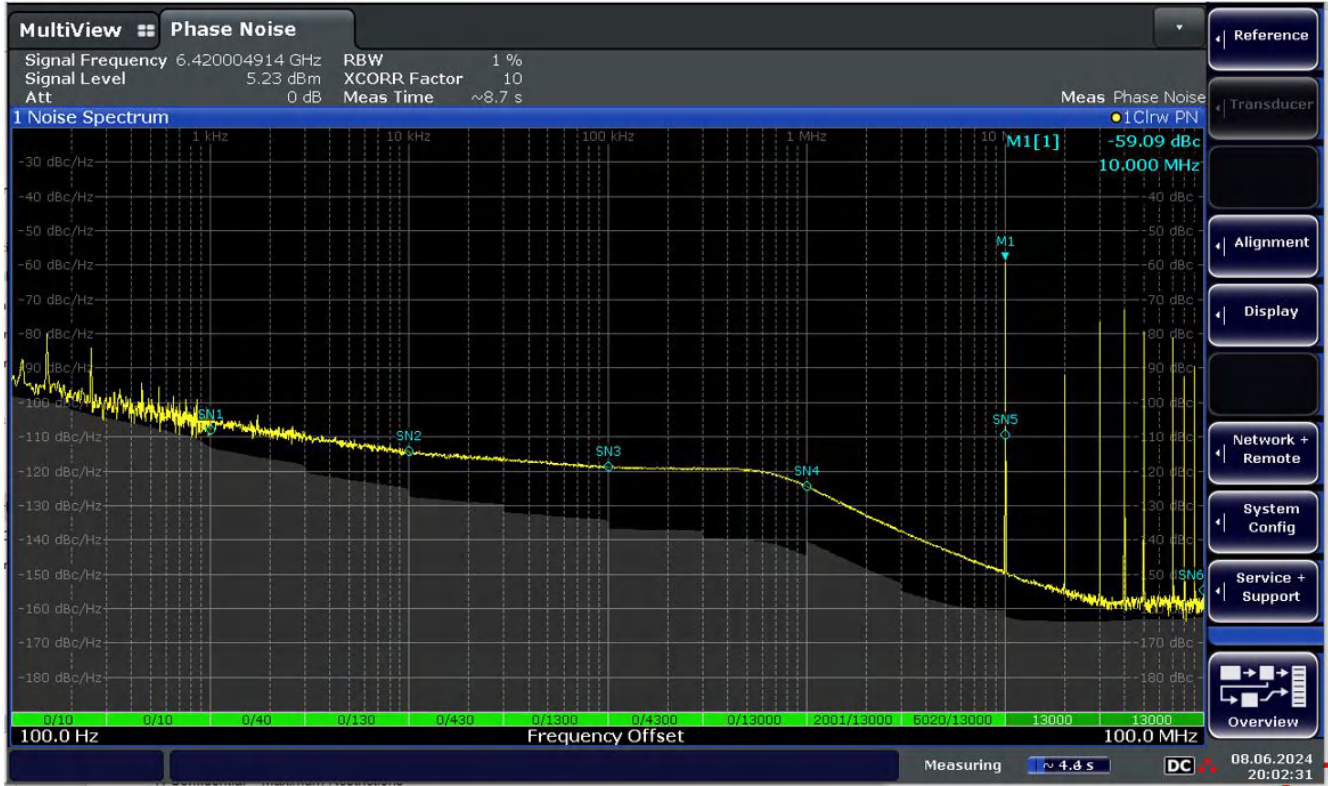

Figure 10. Second Order (Silicon PN Plot)
- Figure 10
Third order MASH can improve spurs over second order MASH as shown in Figure 10 and Figure 12. PLLatinum sim predicted a Sub-Frac spur at 10MHz magnitude reduction from -62.8dBc/Hz to -80dBc/Hz (change of 17.2dBc/Hz) when MASH_ORDER is changed from second to third order. Silicon is showing a change from -59dBc/Hz to -73dBc/Hz(change of 14dBc/Hz).